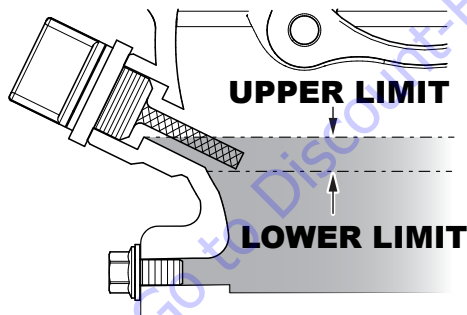

Figure 6. Engine Oil Level
4. If the oil level is low (Figure 6), fill to the edge of the oil filler hole with the recommended oil type (Table 6). Maximum oil capacity is 0.26 quarts (0.25 liters).